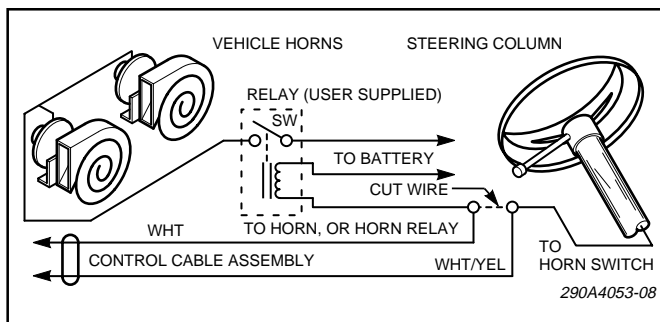

Figure 3-5. Horn Ring Connections.
b. See figure 3-5. Splice the **white/yellow** power cable wire to the **horn ring side** of the wire that was cut in step a. Insulate the splice with the wire nuts (supplied).
d. Obtain a SPST relay of sufficient contact current capacity to activate the vehicle horn. Refer to figure 3-5 while performing the following steps.